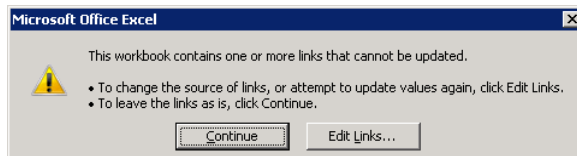

Figure 3. Edit Links
2. Click **Edit Links** as shown in Figure 3.